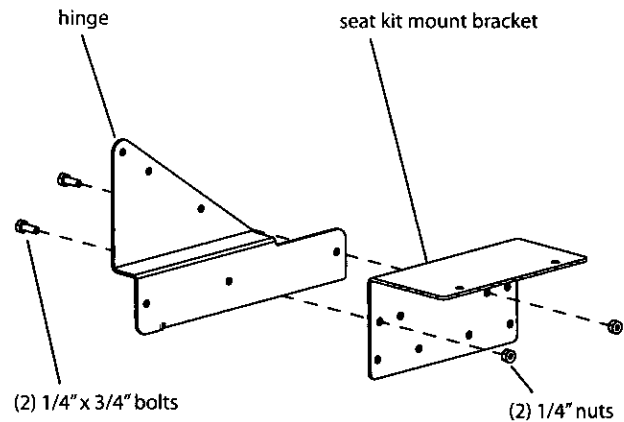

Figure 4 (right side shown)
1. Attach (2) seat kit mount brackets (68430) to each hinge assembly using (4) provided 1/4-20 x 3/4" hex head bolts and nyloc nuts. Make sure the mount brackets are positioned in the correct hole locations so seat brace and seat positions are correct later in instructions. **SEE FIGURE 4.**